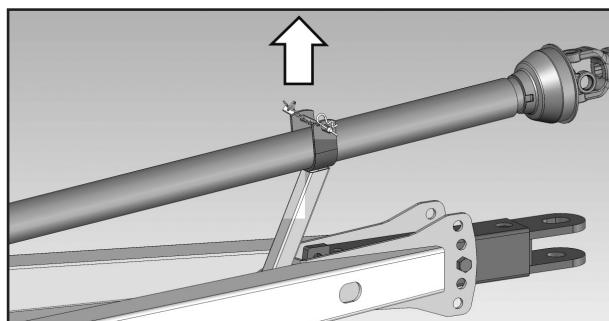

Figure 23- Released driveshaft
- 1) Release the end of the driveshaft from its support on the bagging machine towbar as shown in Figure 23.